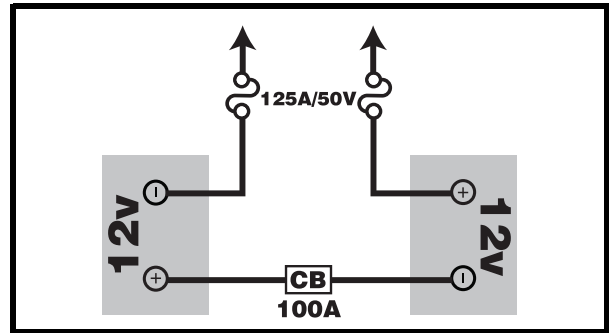

Figure 14A. Battery Wiring Diagram
7. Place a new battery in each battery well. Face the battery terminals of each battery away from the seat post. **See figure 14A.**